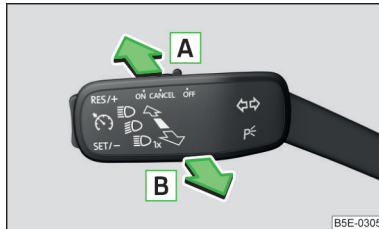

Fig. 53
- Place the lever in position **A** (spring-tensioned position) » Fig. 53.
- If the headlight is currently switched on automatically, move the lever into position **B** (spring-tensioned position) » Fig. 53.